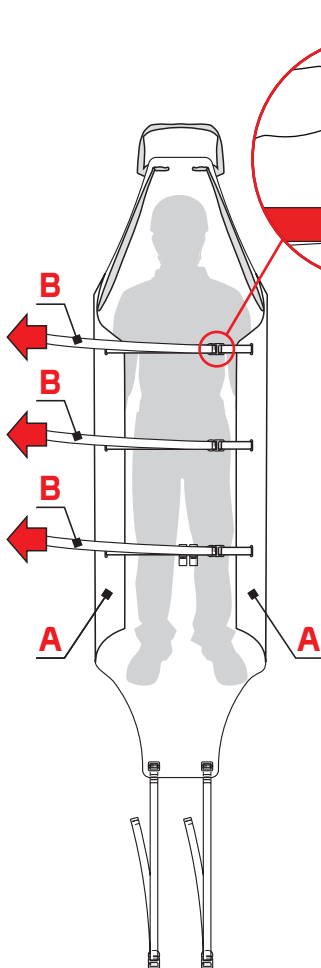

Fig.13
- Insert the buckles with hook (I) in the corresponding slings with eyelet (C) and tension the slings (B) to lift the side parts of the support surface (A) enough to contain the patient (fig. 13).